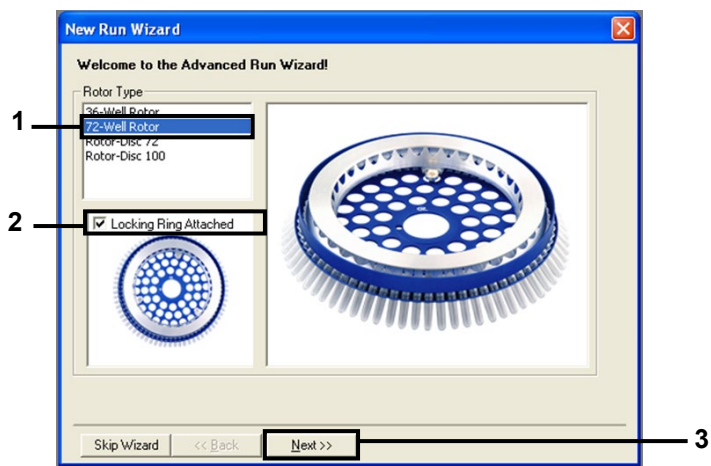

Figure 1. The “New Run Wizard” dialog box. (1 = “Rotor type”; 2 = “Locking Ring Attached” box; 3 = “Next.”)
3. Select **72-well rotor** in the Rotor Type list. Confirm that the locking ring is attached and check the **Locking Ring Attached** box. Click **Next** (Figure 1).